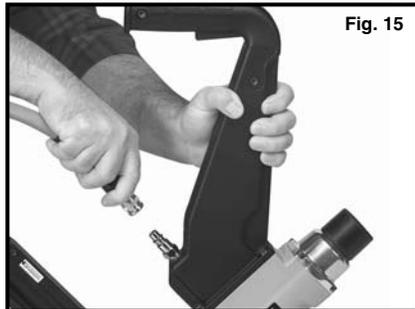

Fig. 15
1. After reading and understanding this entire manual, connect tool to air supply (see Fig. 15).